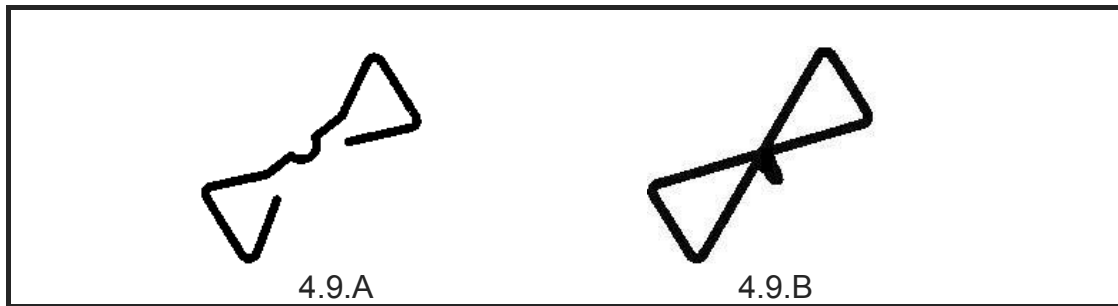

FIGURE 4.9
4.9 Answer the following questions with regard to the wall ties in FIGURE 4.9.